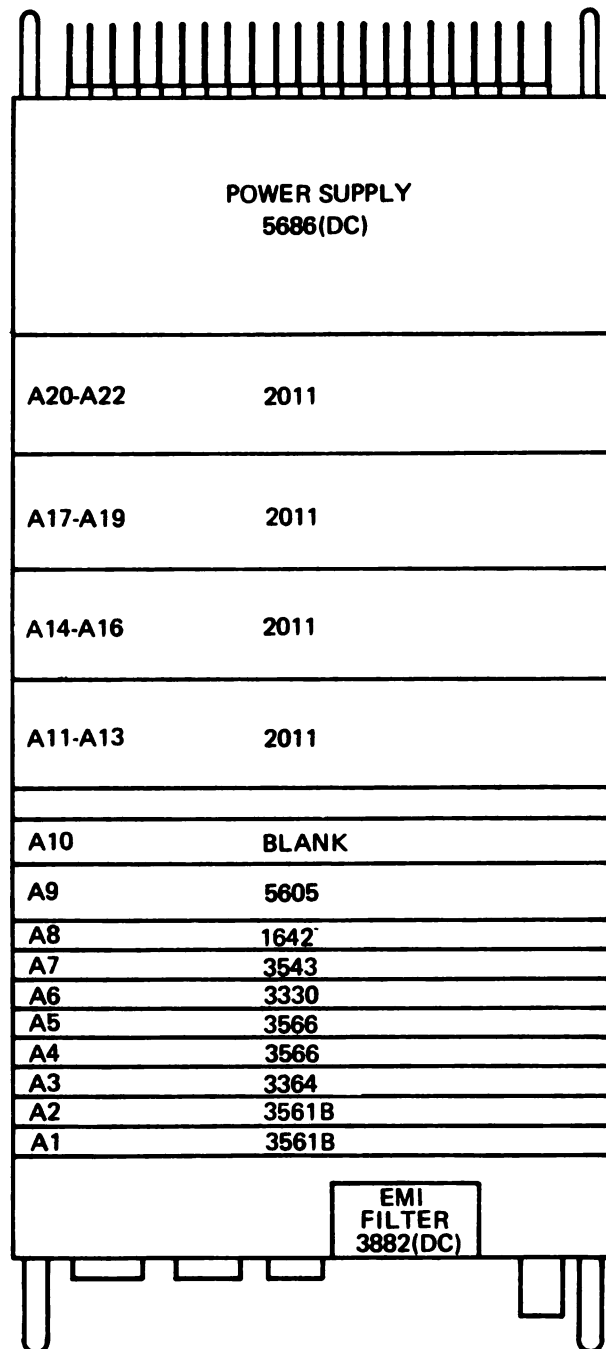

Figure C3-1. AN/UYK-19 Processor Configuration for AN/TMQ-31 (FAMAS) System
b. Configuring Processor. To configure the processor for the AN/TMQ-31 (FAMAS) system, as shown in figure C3-1, proceed as follows:
2. Refer to table C3-1 and figure C3-1 and remove any circuit card that is not in configuration (para 2-39).